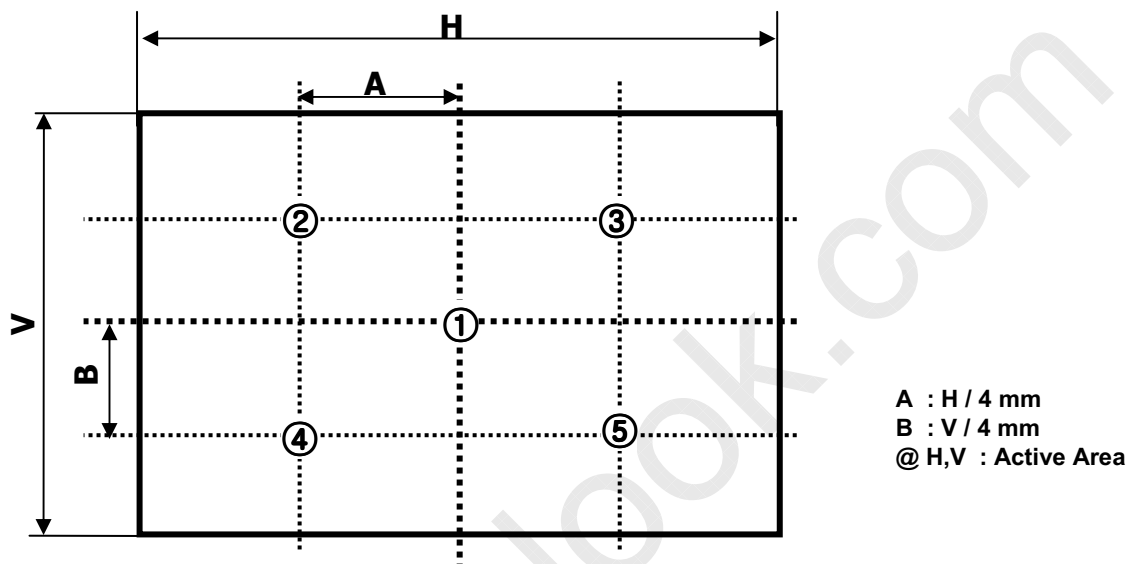

FIG. 2 5 Points for Luminance Measure
n = the Position number(1, 2, 3, 4, 5). For more information, see FIG. 2.
2. Surface luminance are determined after the unit has been 'ON' and 30min after lighting the backlight in a dark environment at 25± 2°C. Surface luminance is the luminance value at center 1-point across the LCD surface 50cm from the surface with all pixels displaying white. For more information see the FIG. 2.
For more information, see the FIG. 2.